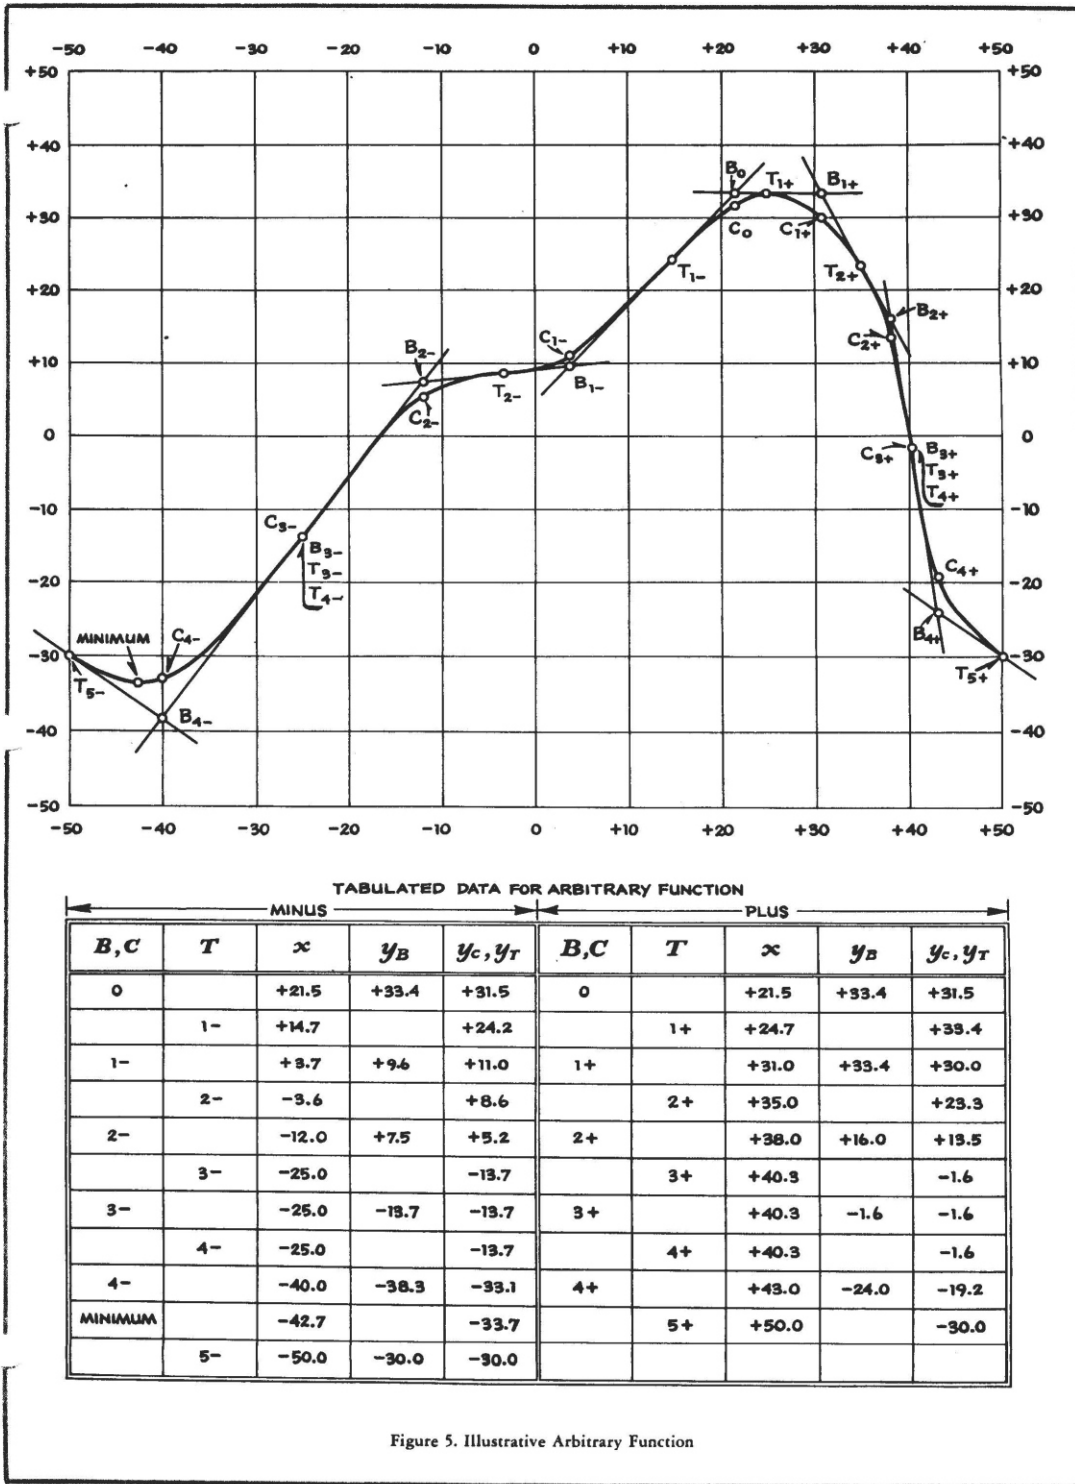

Figure 5. Illustrative Arbitrary Function
(See figures 5, 7, 8.)
(See figure 5.)
(See figure 5, 7.)
- a. Set S_{1-} at 3 CCW and S_{1+} at 3 CW, thus forming a ∇ display, (or S_{1-} at 3 CW and S_{1+} at 3 CCW if a \wedge display is better suited to the arbitrary function.) Manipulate the X and Y shifts so as to locate the vertex of the ∇ or \wedge at the point corresponding to break point B_{1-} . (See par. 1.c. (3).)
- (1) Determine from the plot of the arbitrary function (See par. 1.a., 1.c. (5), and figure 5.) the x and y coordinates of each point of local curvature, each point of tangency, and other key points.
- (2) Disconnect the FF from the sweep (or sine) source and the oscilloscope.
- (3) Connect an accurately adjustable voltage source to the input of the FF. A Philbrick Model K5-U Universal Linear Operator is recommended.
- (4) Connect a voltmeter of the desired accuracy to the output of the FF.
- (5) Start at the center (corresponding to the point set by C_{0-}) and set the voltage source at the input (x) voltage of each positive check point in turn as selected by step (1) above, and measure the output (y) voltage. If any measured voltage differs significantly from the desired voltage as shown on the plot and the tabulation of the arbitrary function, trim the curve using the appropriate S_{-} , A_{-} , and C_{-} knobs.
- (6) Return to the center point and proceed similarly towards the negative side.